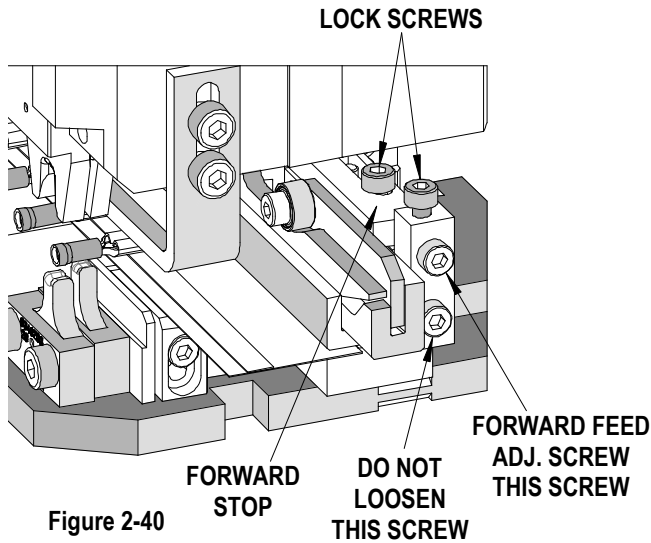

Figure 2-40
3. Using a 2.5mm hex wrench, loosen the (2) M3 SHCS lock screws.
4. Using a 2.5mm hex wrench, turn the forward feed adjustment screw clockwise to reduce the feed stroke or counterclockwise to increase the stroke. See Figure 2-40. When reducing the feed stroke, pull the tape backwards to keep the tape index holes against the feed pawls. If (forward) air pressure is on the feed cylinder, the feed assembly should follow the adjustment.
5. When adjustment is complete, tighten the (2) lock screws. To avoid damaging the screw threads, do not over tighten the lock screw that clamps the forward feed adjustment screw.